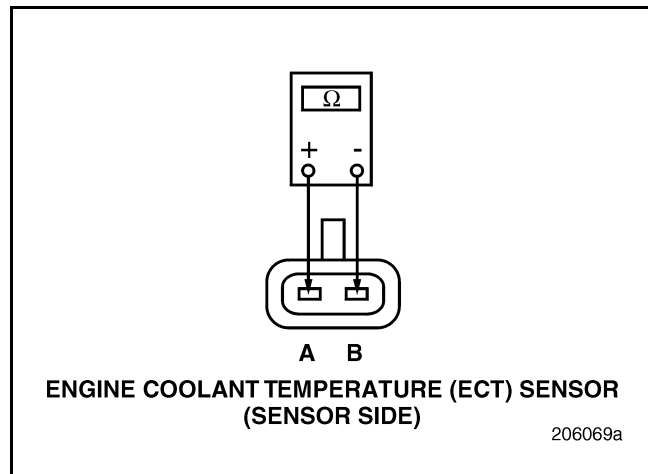

Figure 153
3. Measure the resistance across the pins of the ECT Sensor with the coolant temperature between 32° and 194°F (0° and 90°C) (see Figure 153).